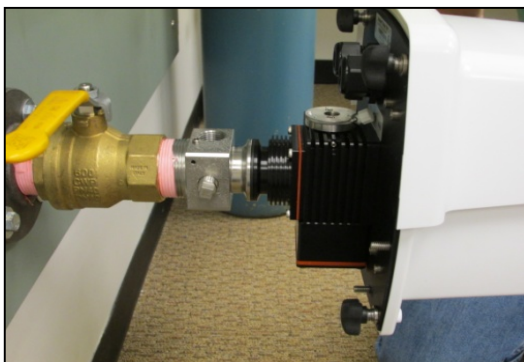

Figure 5: Clamping Flange
- 6) While properly supporting the TM1, position it on the open end of the uni-tee, carefully inserting the tube of the oil inlet assembly into the tee. Make sure the gasket is properly seated between the tee and the TM1. Install the clamp, capturing the uni-tee and the TM1 flanges as shown (**Figs 5 & 6**). Make sure the flat washer is directly under the nut as shown and tighten the nut on the clamp, ensuring that the TM1 is oriented vertically.